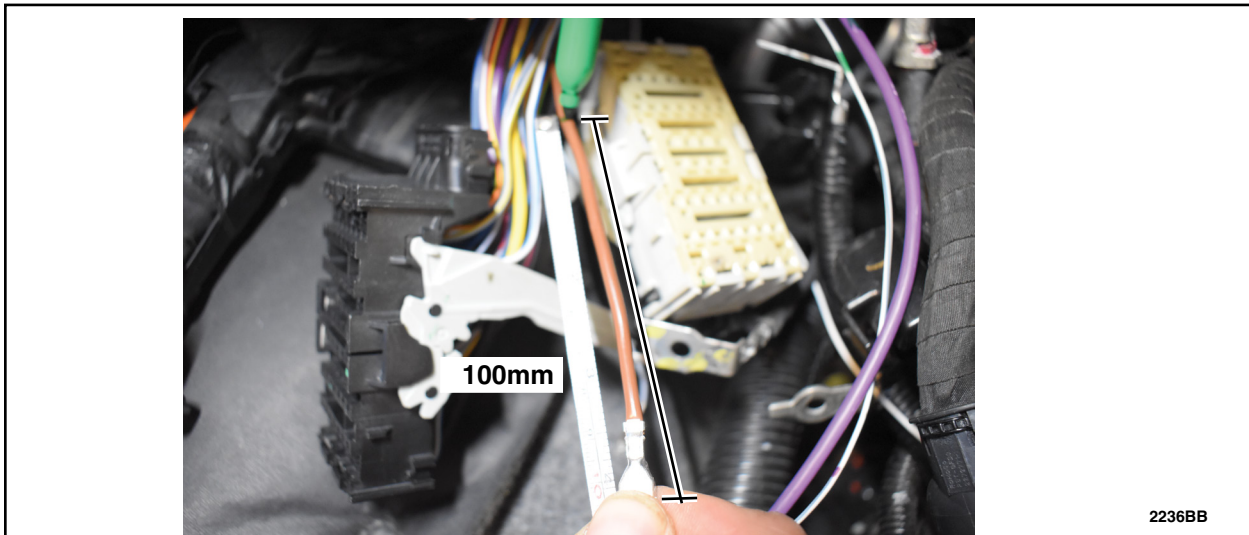

FIGURE 34
39. About 100mm down, on the identified wire, mark the wire to prepare to insert new wire from aux box wiring harness. See Figure 34.